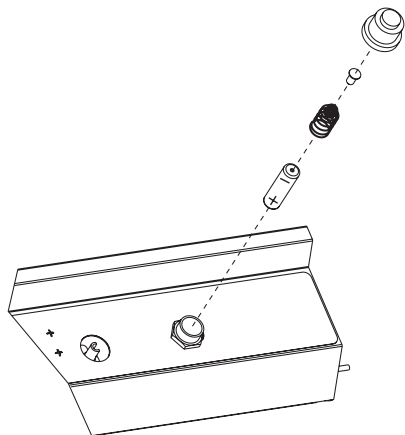

Figure 9
8. Re-attach the ignitor to the control panel, then tighten nut and insert AA battery, positive side down, and replace ignitor button. See Figure 9.